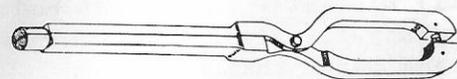

Fig. 9-39
1) Insert the plunger clamp (EF9095) through the bottom of the pump into the hole of the lower spring seat. Grip the clamp so that its tip end opens apart and holds the lower spring seat. (See Fig. 9-39)